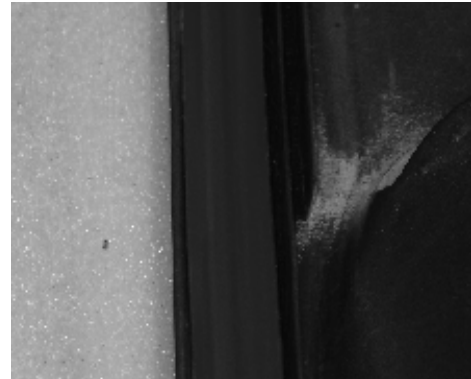

Figure 3
4. Apply double-sided tape (the appropriate tape may be obtained from McMaster-Carr at www.mcmaster.com; part number 76665A74) to the top edge of the rocker panel; don't go over the top edge. Make sure that the tape is pressed firmly against the ribbed edge. (**Figure 3**)